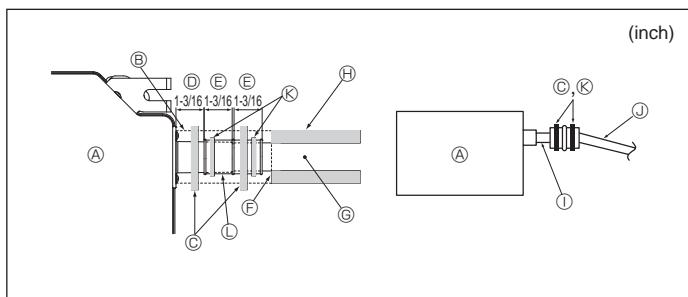

Fig. 3-2
- ⑮ Up to 850 mm (33 inch)
1. Connect the drain socket (supplied with the unit) to the drain port. (Fig. 3-2)